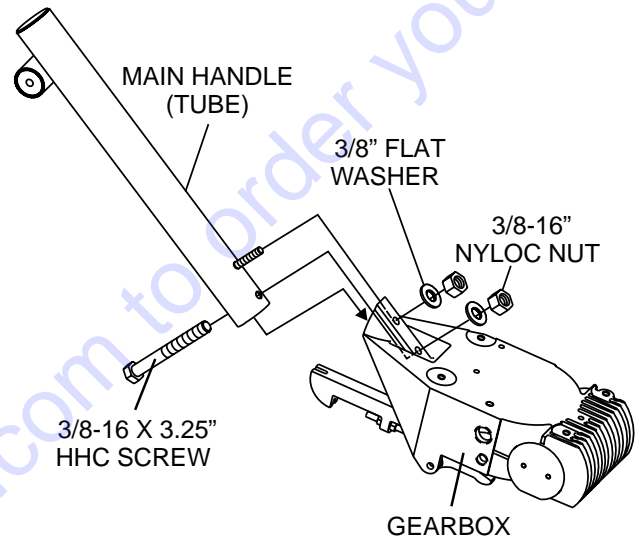

Figure 6. Handle Installation
1. Attach the main handle tube to the gearbox using the supplied hardware as shown in Figure 6.